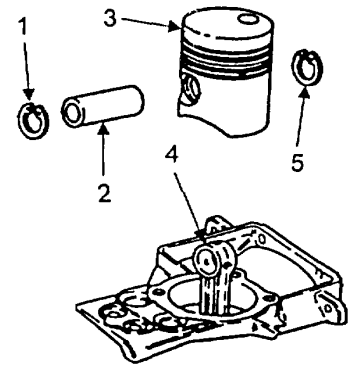

FIGURE 5-39. PISTON
- a. Remove retaining ring (Figure 5-39, Item 1).
- b. Press out piston pin (2) far enough to remove piston pin (2) and piston (3) from connecting rod (4).
- c. Remove piston (Figure 5-39, Item 3) and piston pin (2).
- d. Remove retaining ring (5).
- a. Clean piston (3) and wrist pin (Figure 5-39, Item 2) with dry cleaning solvent and dry with low pressure compressed air.